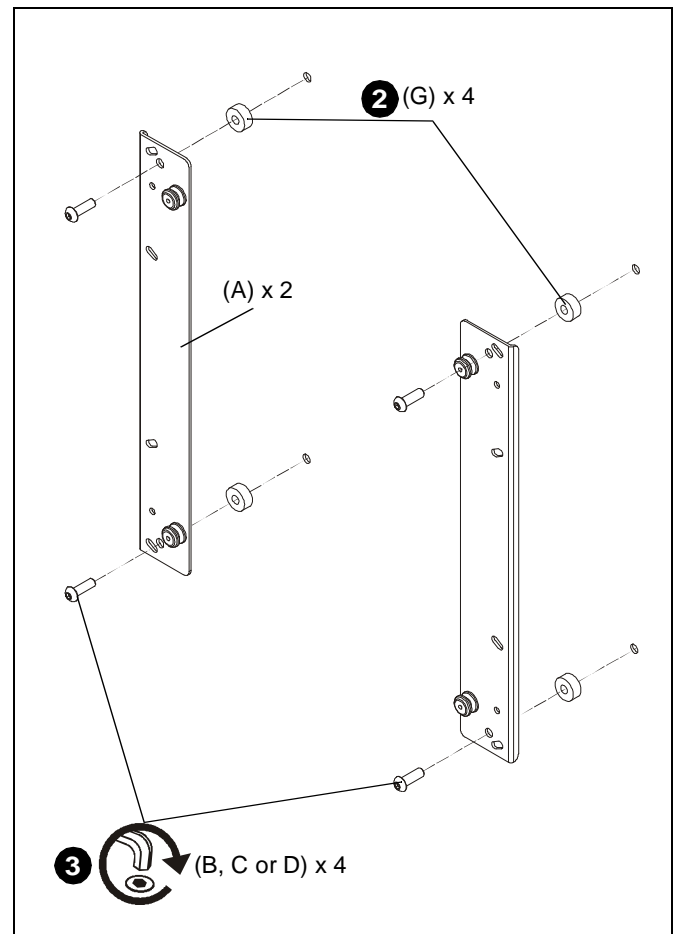

Figure 2
3. Attach the interface brackets (A) to the back of the display using either M8 x 20mm, M8 x 25mm or M8 x 30mm button head cap screws (B, C or D) and the M5 hex key (H). (See Figure 2)
2. Place four 3/8" spacers (G) over mounting holes on back of display. (See Figure 2)